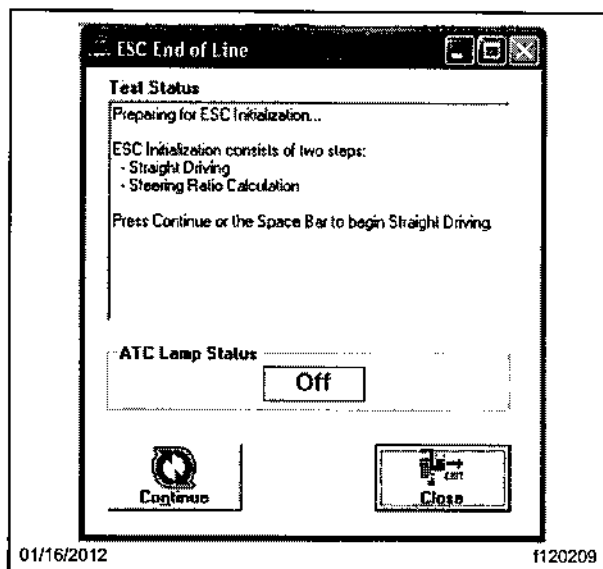

Fig. 14, Preparing for ESC Initialization
4. Once the message box displays as shown in Fig. 14, click continue or press the space bar when ready to drive.